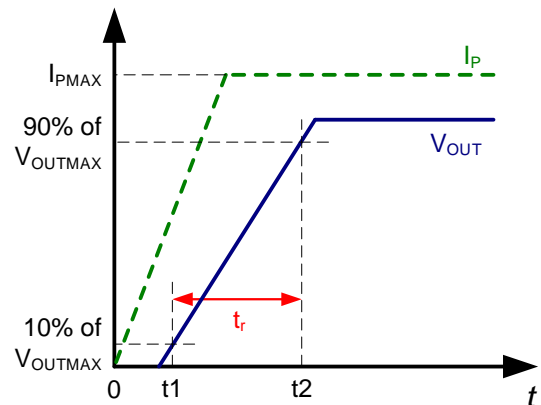

**Figure 6: Propagation Delay ( $t_{PD}$ )**
2.  $t2$ :  $V_{OUT}$  reaches 20% of its final value, as it corresponds to the applied primary current (see Figure 6).